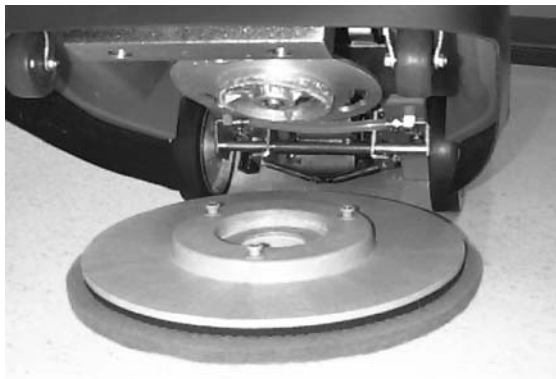

FIG. 6
- Attach brush/pad driver to motor hub. Align 3 mounting studs with slots in motor hub and give the driver a quick turn toward the spring clip on the motor hub to attach brush/pad driver. Be certain that spring clip locks into one of the studs on the driver before operating machine (Figure 6).